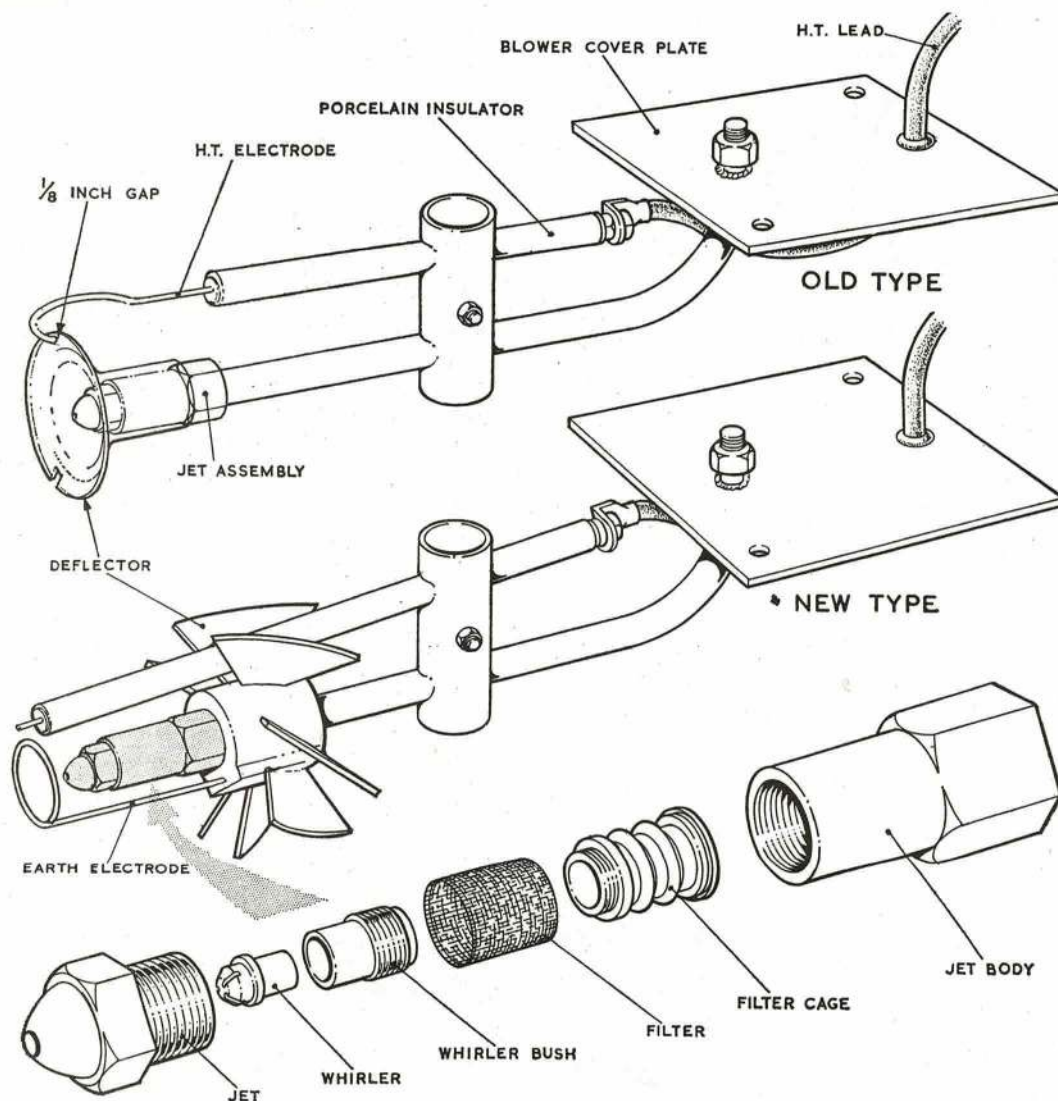

Fig. 9. FUEL BURNER ASSEMBLY
28. Fuel Burner Assembly. The fuel burner assembly, of which there are two versions (Fig. 9), atomizes and ignites the fuel delivered from the balancer valve to the combustion chamber. The high tension electrode on each type of burner is a porcelain-covered steel rod, one end of which is connected by a lead to a magneto which is driven by the electric motor. On the old